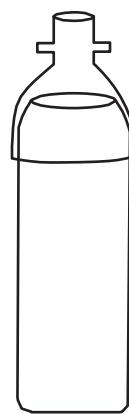

Figure 2.
3. The saved bottom portion should fit inside the saved top portion and hold together with friction (see Figure 2).